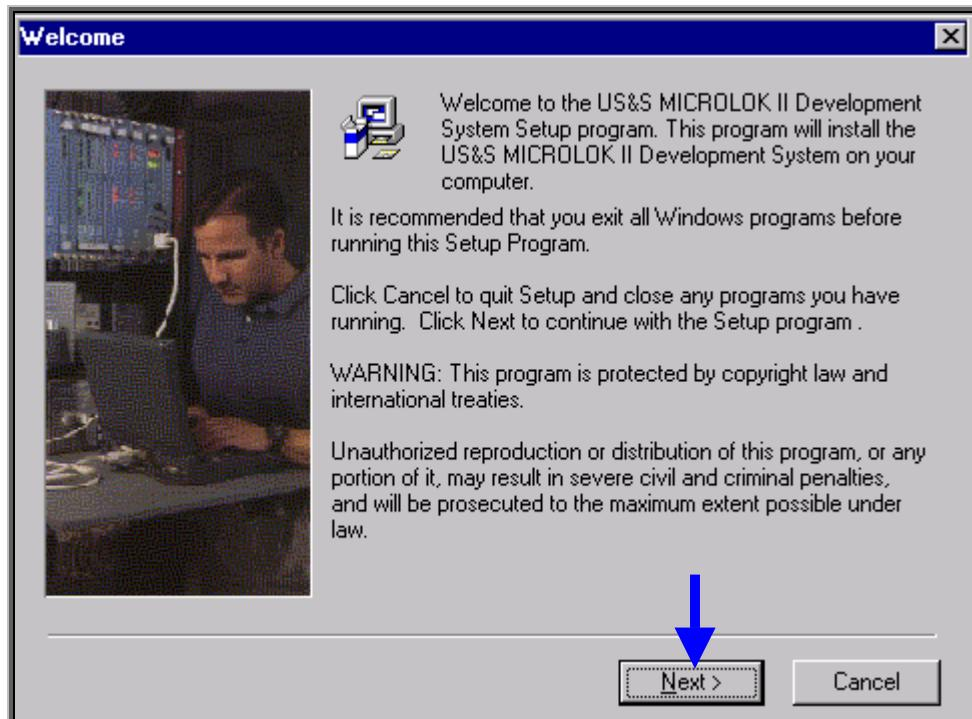

Figure-4.1
- ❖ “Welcome” dialogue will appear (Figure-4.1).